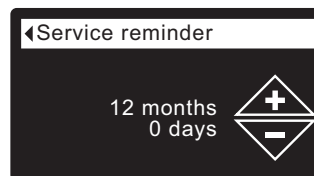

FIG. 84
7. Press the SELECT (O) button to display the Service reminder screen (See Figure 84).